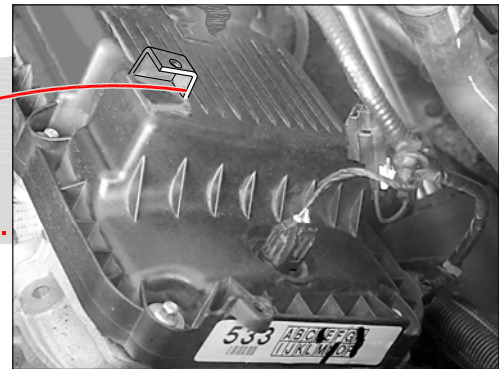
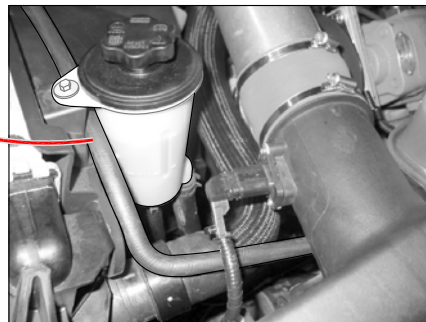

FIG. 4
FIG. 5
3. Drain just enough of the engine coolant to remove the upper radiator hose from the engine water neck. Insert the hose splice (28) into the OEM radiator hose, push the short piece of radiator hose (29) onto the splice and onto engine with two 1.5" hose clamps (30), Fig. 5. Unclamp the hose from the top front of the coolant tank (Location M), thread it between the power steering reservoir and the fan shroud and connect it back to the coolant tank, Fig. 4. Replace coolant.